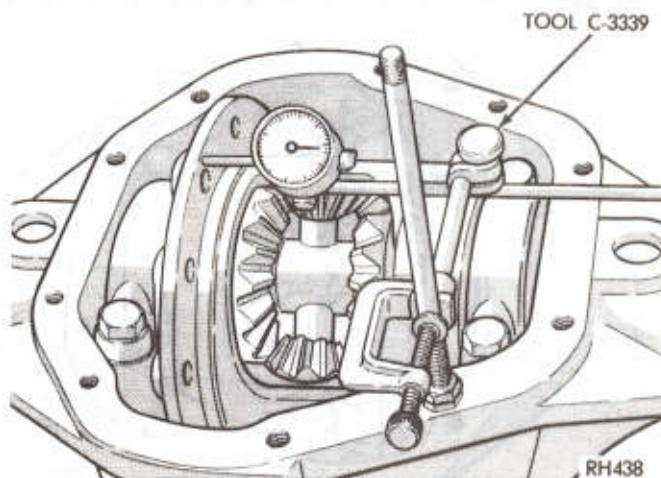

Fig. 22—Measuring Differential Case Drive Gear Mounting Flange Face Runout
(12) Place the differential case between the soft jaws of a vise and remove and **DISCARD** the drive gear screws. Using a fiber mallet, tap the drive gear loose from the differential case pilot and remove.
(13) If the drive gear runout exceeded .006 inch (.152mm) in step (5) differential case flange runout should be remeasured. Install differential case with respective bearing cups into axle housing. Loosen nut of spreader tool and remove. Install bearing caps and tighten snugly. Mount dial indicator in contact with flange face of differential case (Fig. 22) and measure runout as described in step 5. Total allowable runout should not exceed .003 inch (.076mm). It is often possible to reduce excessive runout by positioning drive gear 180 degrees from point of maximum runout when reassembling ring gear on differential case. Repeat steps 8, 9, 10 and 11 above.
(14) Remove drive pinion nut and washer. Using Tool C-452 and holding Tool C-3281, remove drive pinion flange.